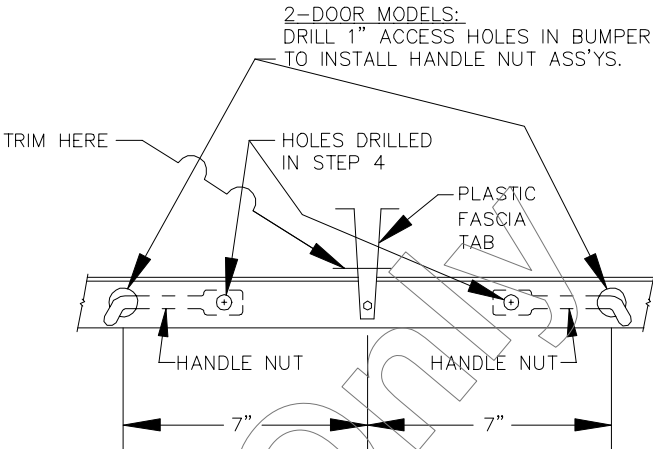

FIGURE 2
1. TRIM PLASTIC FASCIA TAB IF PRESENT. (FIGURE 2)
4. DRILL 1/2" HOLES IN VEHICLE BUMPER AT LOCATIONS MARKED IN STEP 3. ON 2-DOOR MODELS, DRILL TWO (2) 1" ACCESS HOLES AS SHOWN IN FIGURE 2.